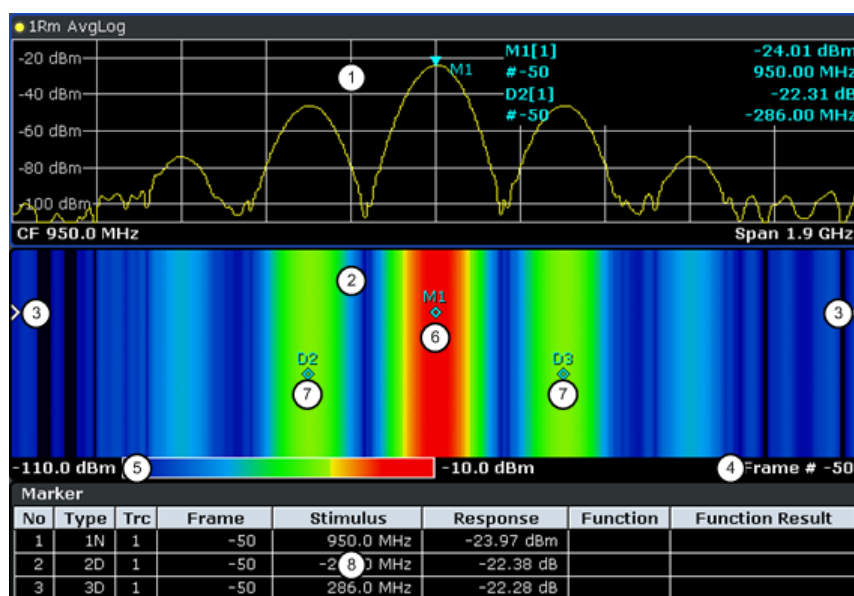

Fig. 3-34: Screen layout of the spectrogram result display
- Spectrum Analyzer result display (1 in figure 3-34)